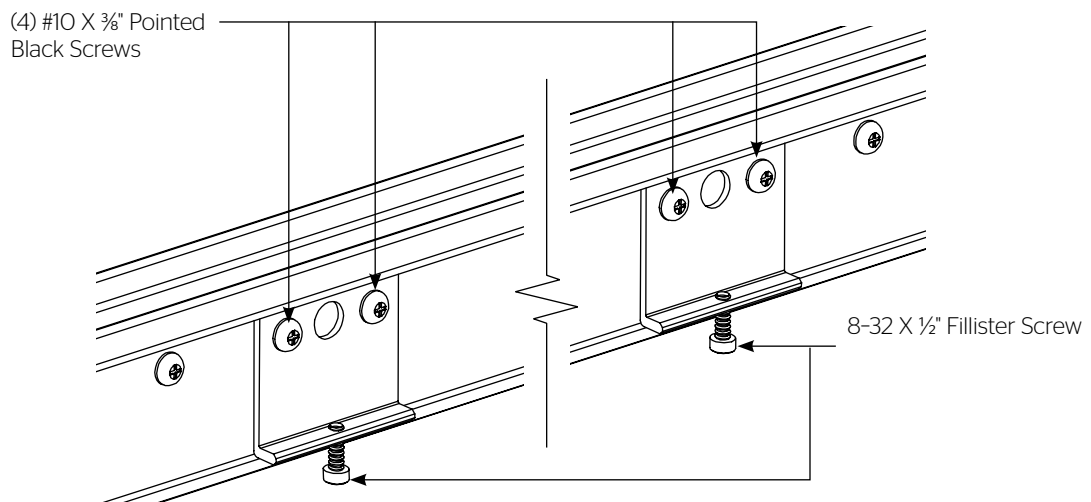

Figure 7 – Screens 104" and Over in Viewing Width
- b. For screens 104" wide viewable and over, attach (2) frame brackets. If your screen is 104" or over in viewing area width (Figure 7).